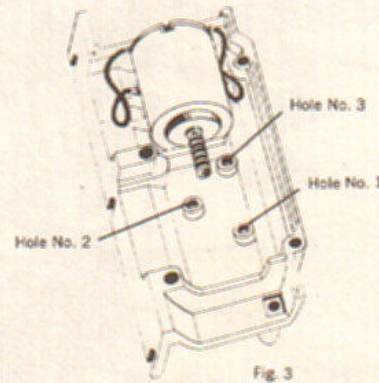

Fig. 3
2. Place the motor in the shell so that slot in the bottom of the motor fits over lug in shell. Be sure that the motor does not rest on top of the wires, see Fig. 3.